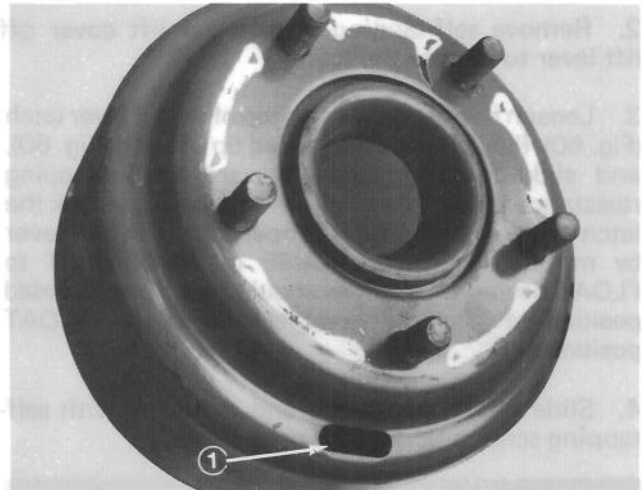

Figure 58
5. Remove wheel nuts and slide wheel and tire assembly off studs. Rotate brake drum until adjusting slot is at bottom and centered over star nut that adjusts brake shoes (Fig. 58).
6. Using a brake adjusting tool or screwdriver, rotate star nut (Fig. 58) down until brake drum (Fig. 59) locks because of outward pressure of brake shoes (Fig. 59).